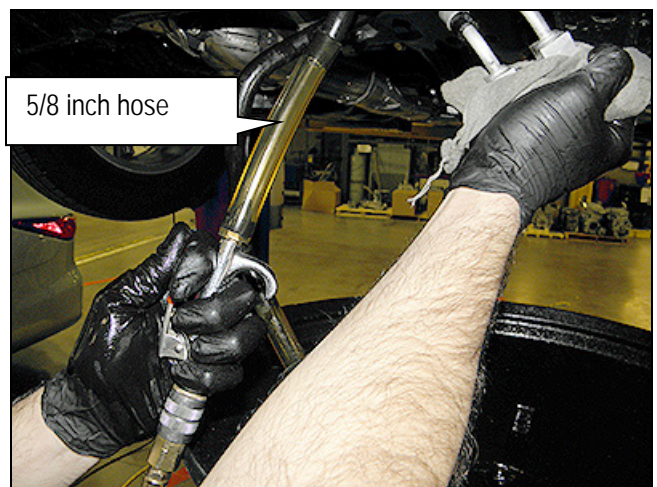

Figure 4
9. Slide a piece of 5/8 inch hose (16 mm) over the end of the CVT fluid cooler hose (Figure 4) that was used as the flush inlet.
10. Insert the tip of an air gun into the end of 5/8 inch (16 mm) hose (Figure 4) and block the CVT fluid cooler bypass valve fluid passage.